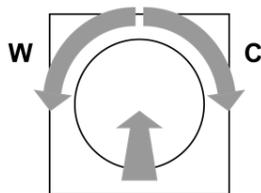

Figure 2
i When saving the colour temperature, you must ensure that the last turn of the pressed control knob (Figure 2) is made to the left for the warmest light colour (W) and to the right for the coldest light colour (C).
- Turn pressed control knob to the left (W) until reaching the warmest light colour required, and hold it in this position for more than 10 seconds.